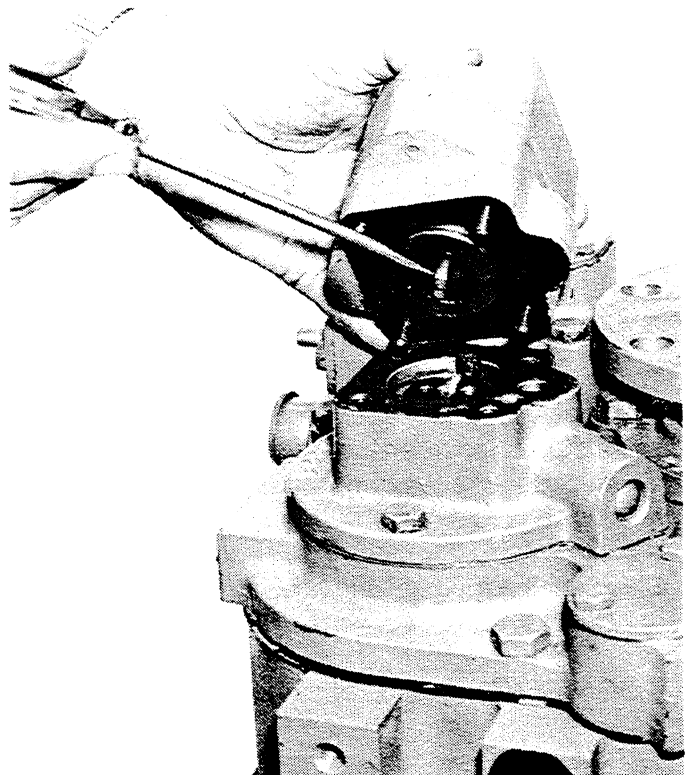

Figure 9-10. *Installing Oil Pump with Care to Align Drive Tang.*
2. Install oil level gauge tube (6) if removed, and oil level gauge (5).
3. Install oil fillter and breather (12).
4. Install gasket (41) and oil pump assembly (43) aligning the tang on the pump shaft with the slot in the reverse clutch shaft. See Figure 9-10. Secure with capscrews (Figure 12-1, 42). Torque the capscrews 15 ± 2 lbs. ft.